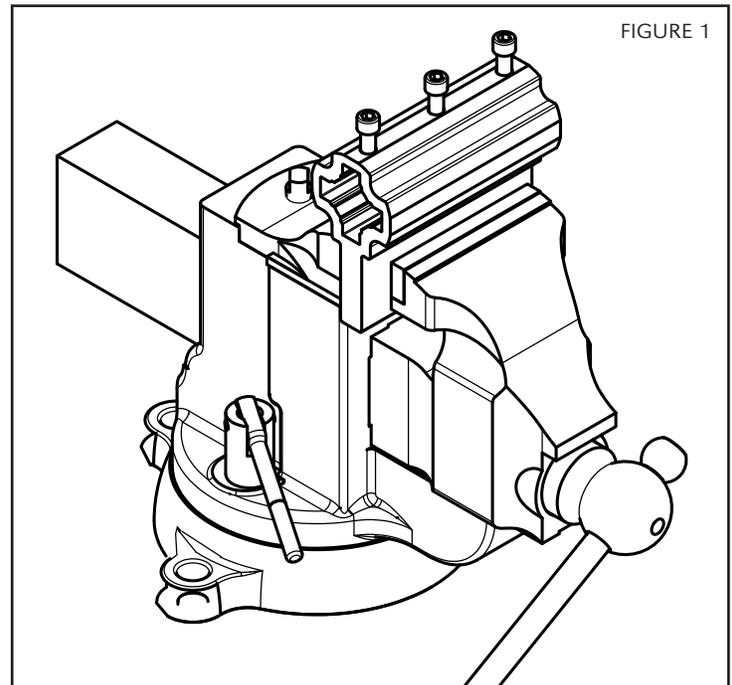

FIGURE 1
2. Clamp the Reaction Block into a sturdy bench vise (FIGURE 1).